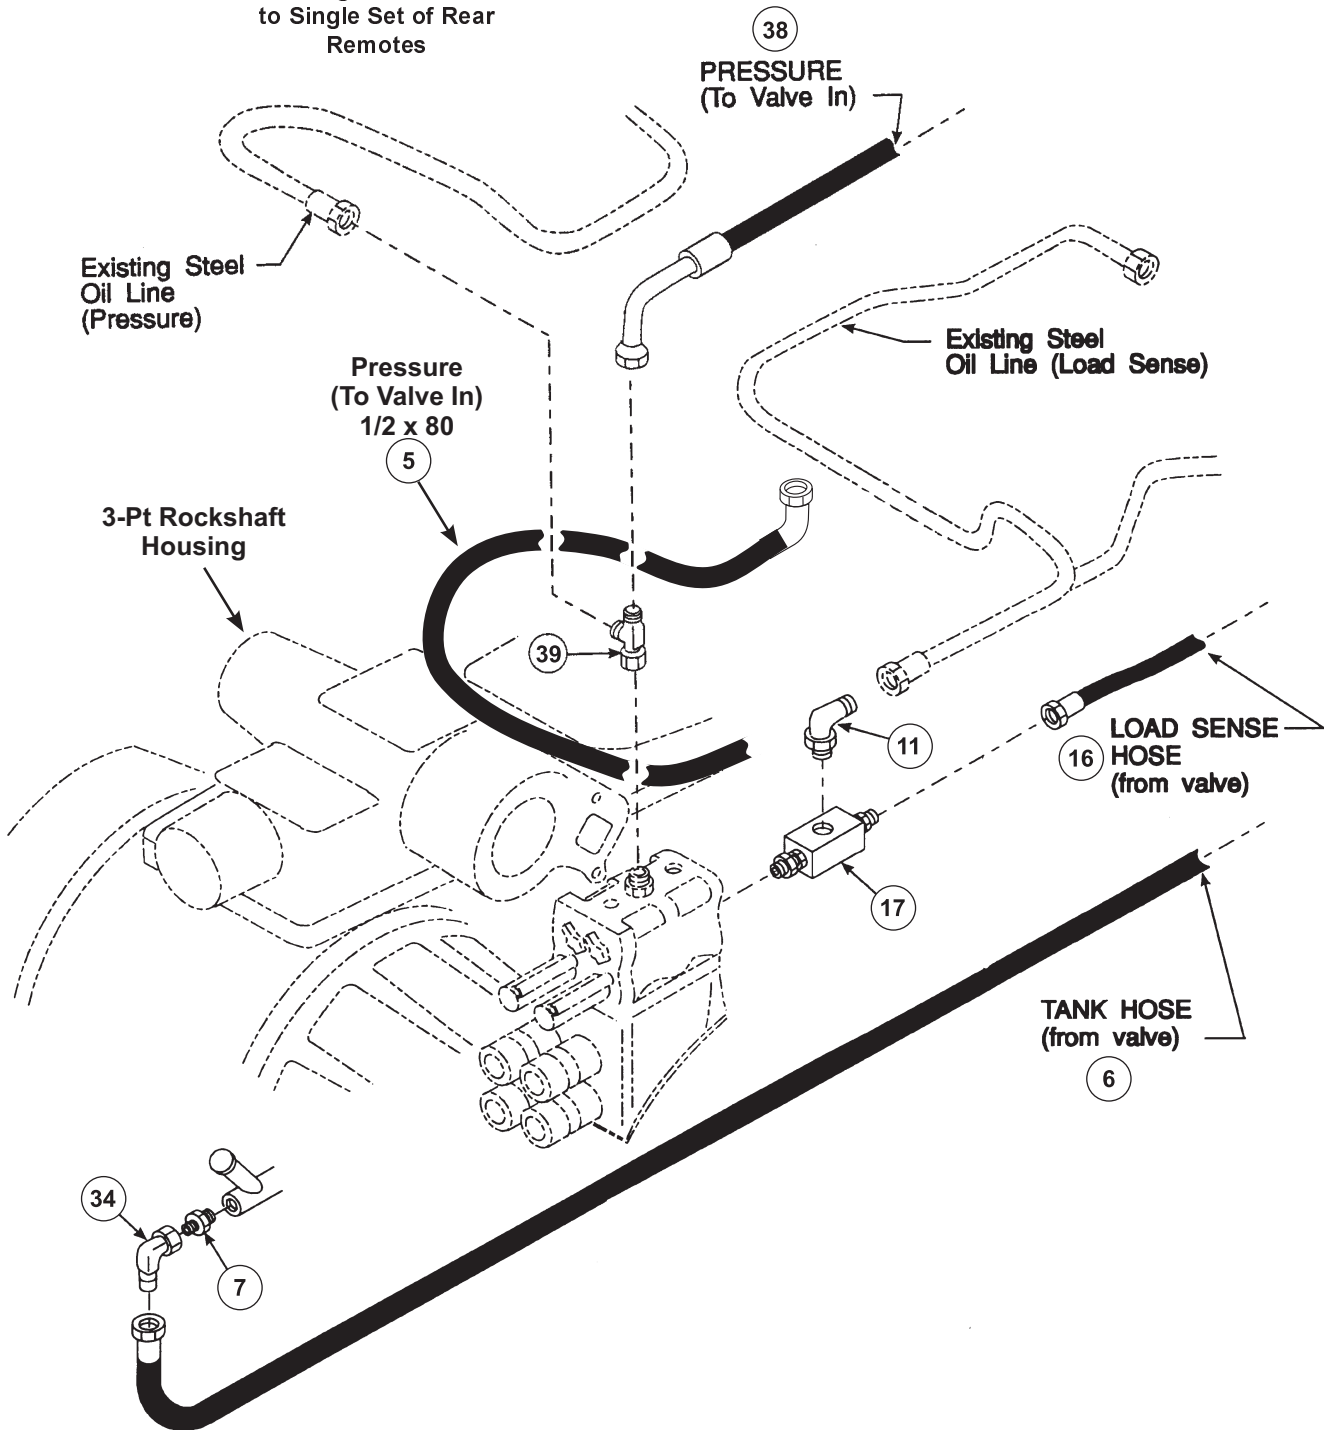

Figure 4
2. Remove o-ring adapter fitting from front of tractor remote valve where small load sense line was connected. Screw shuttle valve (17) directly into port vacated. Make sure male tip with o-ring goes into tractor valve. Leave shuttle valve (17) loose at this time until best position is determined.
3. Screw 7/16 x 9/16 x 90 elbow (11) into female port of shuttle valve. Position this elbow so:
- A. If short load sense line is removed, 1/4 x 16 hose (20)(Figures 4 & 5) can be connected from 7/16 x 9/16 x 90 elbow (11) to fitting where other end of load sense line was removed. Connect 1/4 x 16 hose (20) and tighten all fittings and shuttle valve.
- B. If steel load sense line is longer than 16 inches, it can be rerouted to screw directly into 7/16 x 9/16 x 90 elbow (11). Connect this load sense line to 7/16 x 9/16 x 90 elbow (11) and tighten fittings and shuttle valve. Discard 1/4 x 16 hose (20) since it will not be used.
4. Connect 1/4 x 48 hose (16) from load sense port of auxiliary control valve (1) to male 7/16-20 flare end of shuttle valve. This completes the load sense circuit.